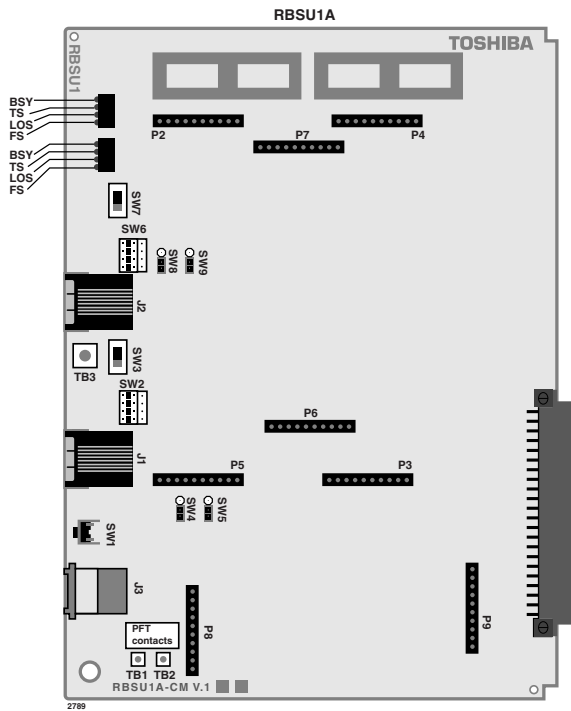

Figure 7-11 RBSU PCB
RBSU/RBSS switches, jumpers, and connectors are shown in Figures 7-11 and 7-12 on page 7-17 and described in Table 7-8.
- Set all option switches and jumpers on the RBSU and RBSS PCBs before plugging the RBSS onto the RBSU or inserting the RBSU into the system. RBSU/RBSS switch/jumper information and locations are shown in Figures 7-11, 7-12 and Table 7-8.